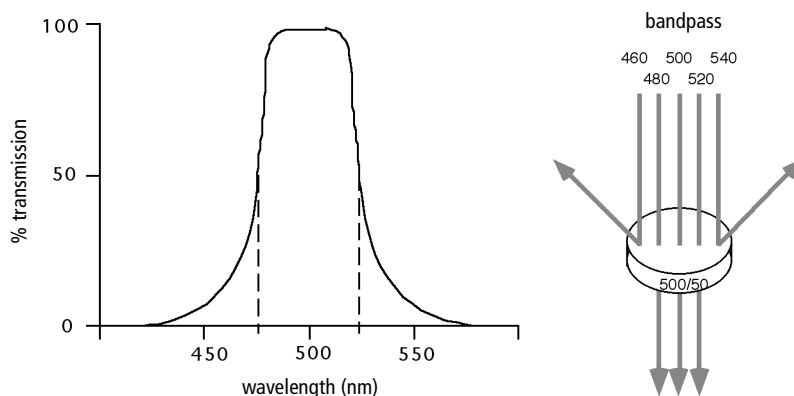

Figure 2-9 Light transmittance by bandpass filters
Bandpass (BP) filters transmit a relatively narrow range or band of light. Bandpass filters are typically designated by two numbers. The first number indicates the center wavelength and the second refers to the width of the band of light that is passed. For example, a 500/50 BP filter transmits light that is centered at 500 nm and has a total bandwidth of 50 nm. Therefore, this filter transmits light between 475 and 525 nm (Figure 2-9).